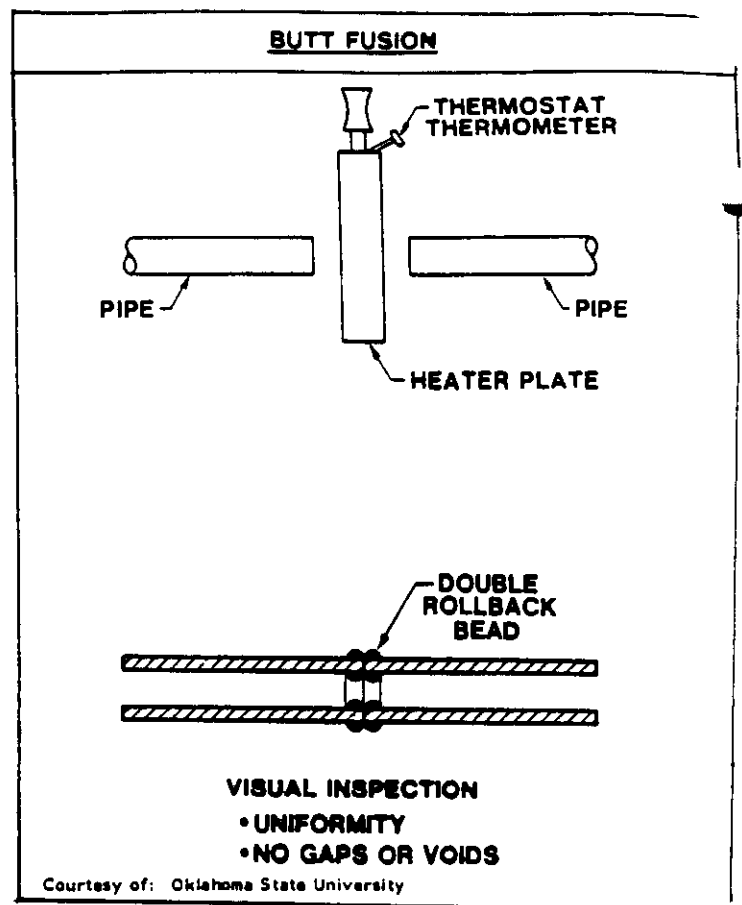
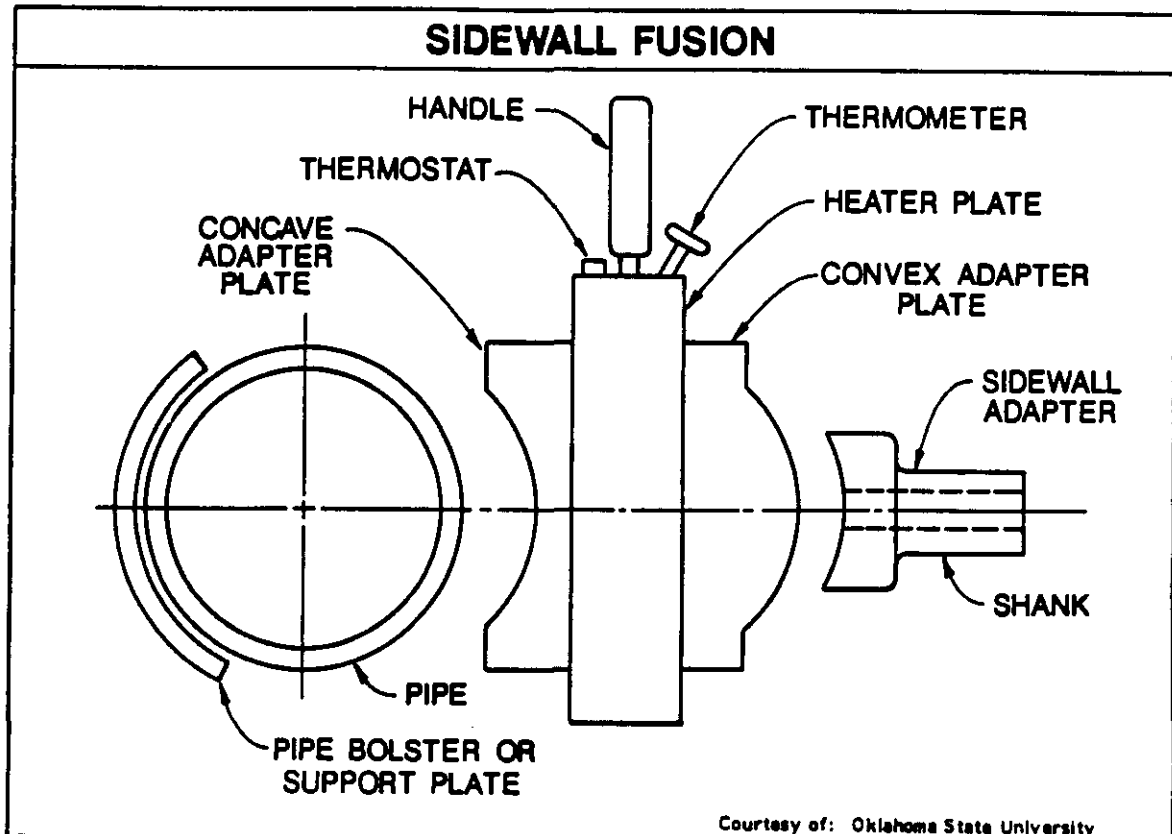

FIGURE 16
FIGURE 17
**BUTT FUSION**--The second type of heat fusing joining is the butt fusion procedure where the 2 pipe ends are simultaneously heated to a plastic state and brought together to form the heat fused joint (see Figure 16). A single heat fusion process is required to form the joint between the two plastic pipe ends. The butt fusion process is performed by using specially designed machines (available from several manufacturers) which provide secure holding of the two pieces to be fused, aligning the pieces, trimming and squaring their ends, heating the surfaces to be joined, and butting them together while they remain in a plastic state.
**SIDEWALL BUTT FUSION JOINING**--In addition to joining the flat ends of pipe or fittings, the butt fusion process can also be used when joining the concave surface of a service saddle to the convex surface on the sidewall of a pipe (see Figure 17). This is done by heating these surfaces with appropriate convex and concave shaped heaters and then butting these surfaces together. This is known as sidewall fusion joining. Typical butt fusion fittings are illustrated in Figure 16.